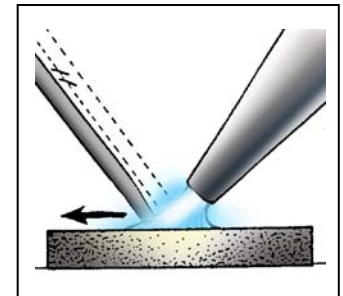

Figure 4
12. When the weld pool needs additional material, dip the end of the rod in the front edge of the weld pool. This melts the rod and fills the pool. When enough filler is added to make the desired bead, move forward. Refer to Figure 4.